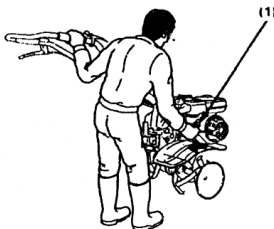

Fig. 13 (1) Starter grip
- 5) Pull the starter grip lightly until resistance is felt and then pull it briskly. (Fig. 13)